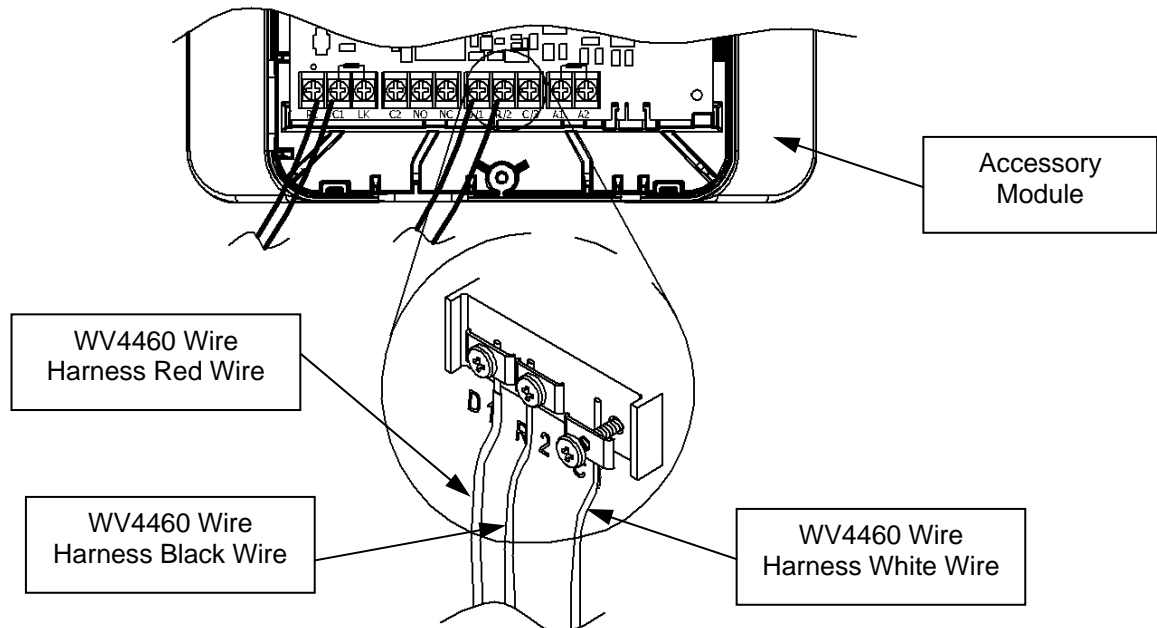

Figure 23
Step 23: Insert the white wire, from the WV4460 wire harness, under the screw labeled "C/3." This is shown in Figure 23.